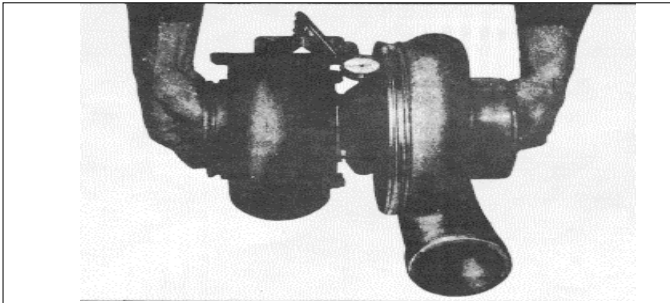

Fig. 9
- (3) Loosen the "V" band coupling nut to approximately 50 in/lb. (6 N•m) torque, then re-torque the nut to 110-130 in/lb. (12-15 N•m) torque.
- (19) Position the compressor housing (2) as marked at disassembly against the backplate assembly (14) and secure it in place with the "V" band coupling (1). Lightly lubricate the threads of the toggle bolt with engine oil and tighten the nut to 110-130 in/lb. (12-15 N•m) torque.
- (20) Check the shaft radial movement:
- (a) Position the magnetic base J 7872-2 with the swivel adapter J 7872-3 on the flat surface of the turbine housing inlet flange as shown in Fig. 9.
- (d) Grasp each end of the rotating assembly (Fig. 9) and, applying equal pressure at each end, move the rotating shaft first toward and then away from the dial indicator, creating a transverse movement in the shaft. The dial indicator displacement should be between .003" and .007". If the displacement does not fall within these limits, disassemble and repair or replace the rotating assembly.
- (21) If it is to be stored, lubricate the unit internally and install protective covers on all openings.
- (22) Stamp the letter "R" in the lower left-hand